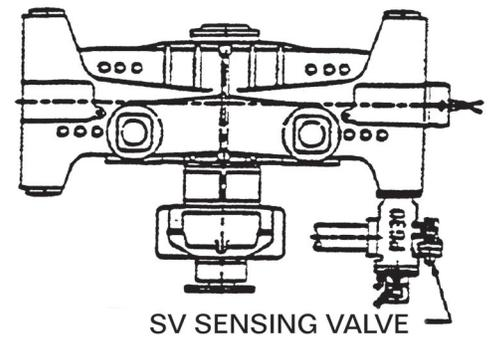

FIGURE 3
1. You must find an open discharge pad on the midship pump to mount the PG30 Relief Valve and Sensing Valve Assembly. One typical location is shown in **Figure 3**. Any available opening can be used including any of the “four-bolt” openings on the top of the pump if space permits. In deciding which opening to use, remember that a 3” pipe line directing the water to the ground must be threaded into the PG30 outlet flange. Note that the PG30 relief valve can be rotated into four different positions on any given pump discharge opening.